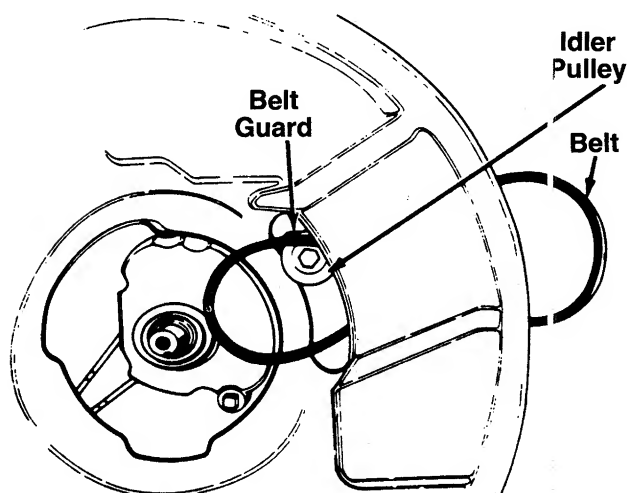

FIGURE 20.
8. Remove the belt from between the idler pulley and the belt guard on the idler pulley bracket. See figure 20.
- A. Push the idler pulley up out of the way as shown in figure 20.
- B. Slide the belt in from the rear of the deck, and place it around the transmission pulley. See figure 20.